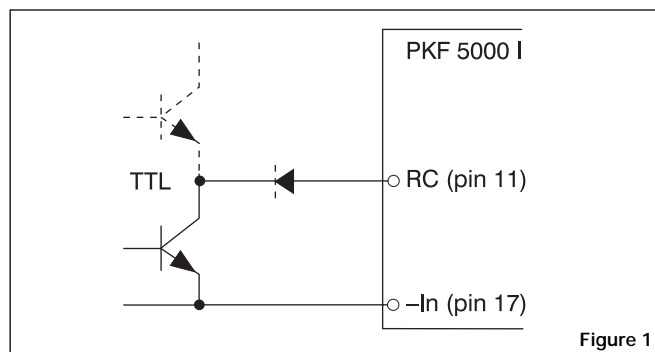

Figure 1
Turn-on or turn-off can be realized by using the RC-pin. If pin 11 is connected to pin 17 the power module turns off. Normal operation is achieved if pin 11 is open (NC) . To ensure safe turn-off the voltage difference between pin 11 and 17 shall be less than 2.0V. RC is TTL open collector compatible output with a sink capacity >300 μ A (see fig. 1).